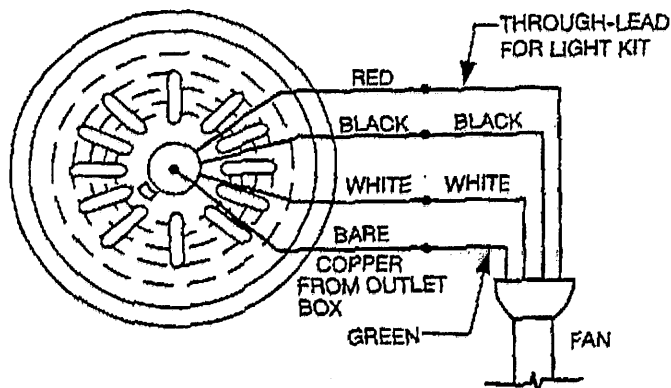

FIGURE 5
1. Mount the fan to the fan hanger. Connect the white wire from the control to the fan white wire and the black wire to the black. Connect the bare copper wire to the green ground wire from the fan. Connect the red wire from the control to the fan through-wire that goes directly to the light kit. See Figure 5.